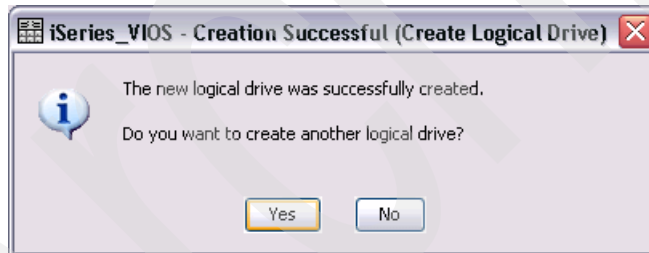

Figure 7-58 DS Storage Manager Creation Successful dialog
10. Since we want to create more than one logical drive for our IBM i client we answer the question "Do you want to create another logical drive?" by selecting **Yes**, as shown in Figure 7-58.